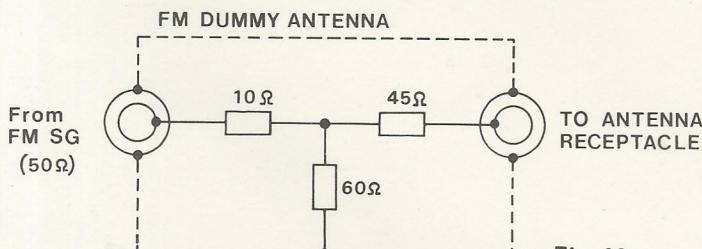

Fig. 10
- (f) Connect the output of FM RF signal generator to the antenna through dummy antenna. Set the frequency of FM RF sweep generator to 98.1MHz exactly, and tune the receiver to 98.1MHz as well. Let the output level of FM RF sweep generator be 1mv. Refer to Fig. 10.